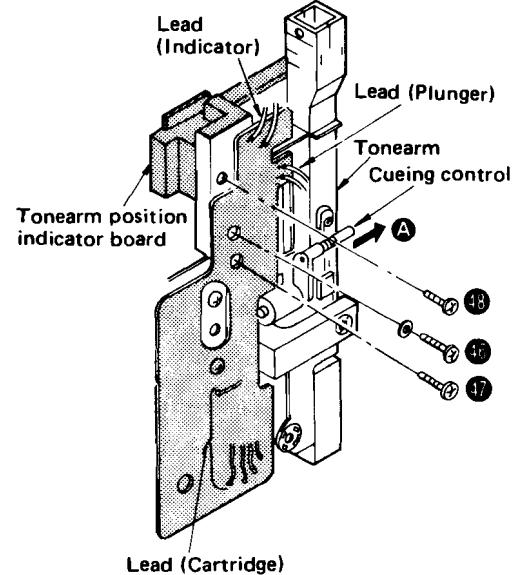

Fig. 16
2. Unsolder the 5 lead wires from the cartridge (Fig. 16).
2. Unsolder the 2 lead wires from the cueing plunger (Fig. 16).
3. Remove the 2 cueing control ass'y setscrews (Fig. 16: 46, 47), and the cueing control ass'y can be removed in the direction of the arrow A.
2. Unsolder the 2 lead wires from the indicator (Fig. 16).
3. Remove the tonearm position indicator board setscrew (Fig. 16: 48).